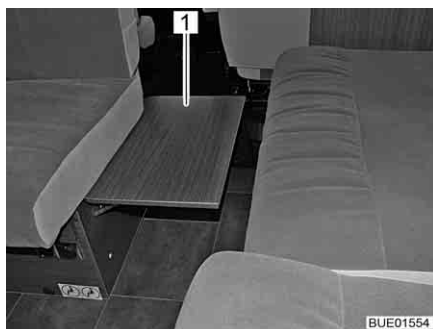

Fig. 98 Folding bench seat enlargement
- Fold up the bench seat enlargement (Fig. 98,1) on the front bench and lock into place.